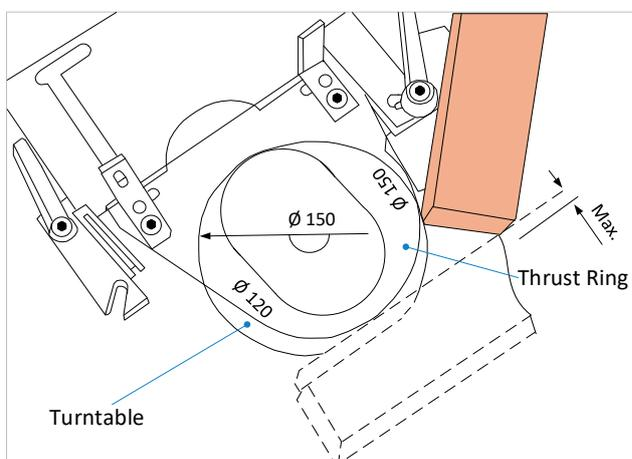

Figure 32: TAPOA 1639 ring fence adjustment
**Example:** With a tool diameter of 140 mm, the thrust ring must be installed as shown in ⇒ Figure 32.
- The height of the thrust ring (1) can be adjusted using the two clamping levers (9) at the rear of the fence parallel to the table top. It can be mounted either above or below the tool.
- The height of the workpiece hold-down and the contact guard (2) are adjusted to the required level with the two clamping levers (10) on the rear side of the fence.
- The feed strip (3) can be swivelled away by loosening the clamping lever (4) if necessary. Further, it can also be mounted on the other side (with a different spindle rotation direction).
- The tangential point (T) is marked on the thrust ring. This mark is used to measure the maximum cutting depth. The adjustment is made by loosening the two clamping levers (5) and turning the adjusting wheel (7).